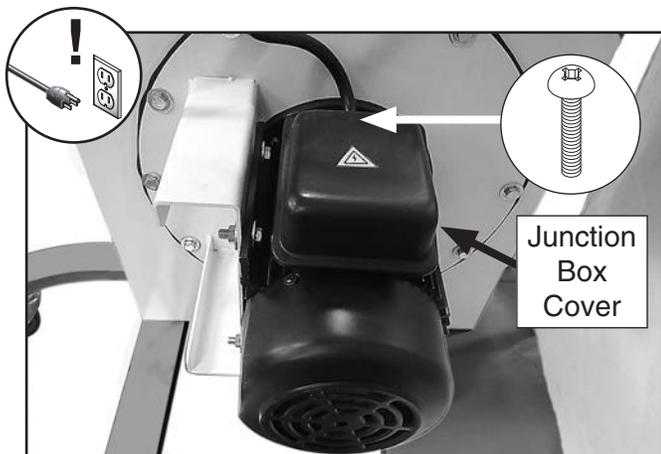

Figure 3. Motor and junction box location.
3. Remove screw that secures junction box cover to motor (see **Figure 3**).